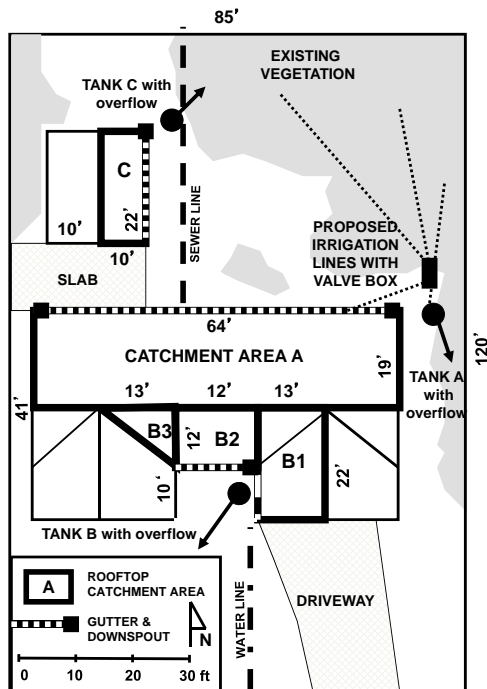

Figure 8. Example water harvesting plan for a residential site in Bellingham
- Using the aerial photo as a guide, trace or draw a “birds-eye-view” sketch of your site to-scale showing lot dimensions and key roof dimensions (Figure 8). Using graph paper can make drawing to scale easier.
To calculate runoff to potential tank locations at the site shown in Figure 8, first you need the square footage of various roof measurements. These can be obtained from the City IQ Online Map Viewer, where aerial photos of your site are available, and where line and area calculations can be made. See [www.cob.org/cityiq/website/index.html](http://www.cob.org/cityiq/website/index.html) Using these measurements you will first calculate catchment areas A, B and C as follows:
For example: say you used the runoff estimation process outlined in figure 8 to determine that your roof would around about 23,000 gallons of runoff water per year. Harvesting one-tenth of that at a time would require installing a 2,300-gallon tank receiving water from one downspout. Even during the drier months (May-September) when average rainfall is limited to a total of about 5 inches, over 3,200 gallons of rainfall would run off the roof and fill the tank.
1. Use the aerial photo of your site, or a tape measure, to measure the length and width of the roof areas from which you may want to collect water. The example site shown in Figure 8 has a house and separate shed whose roofs could serve as rainwater harvesting catchment surfaces. Calculations of catchment sizes and potential harvested rainwater are shown in Figure 8.